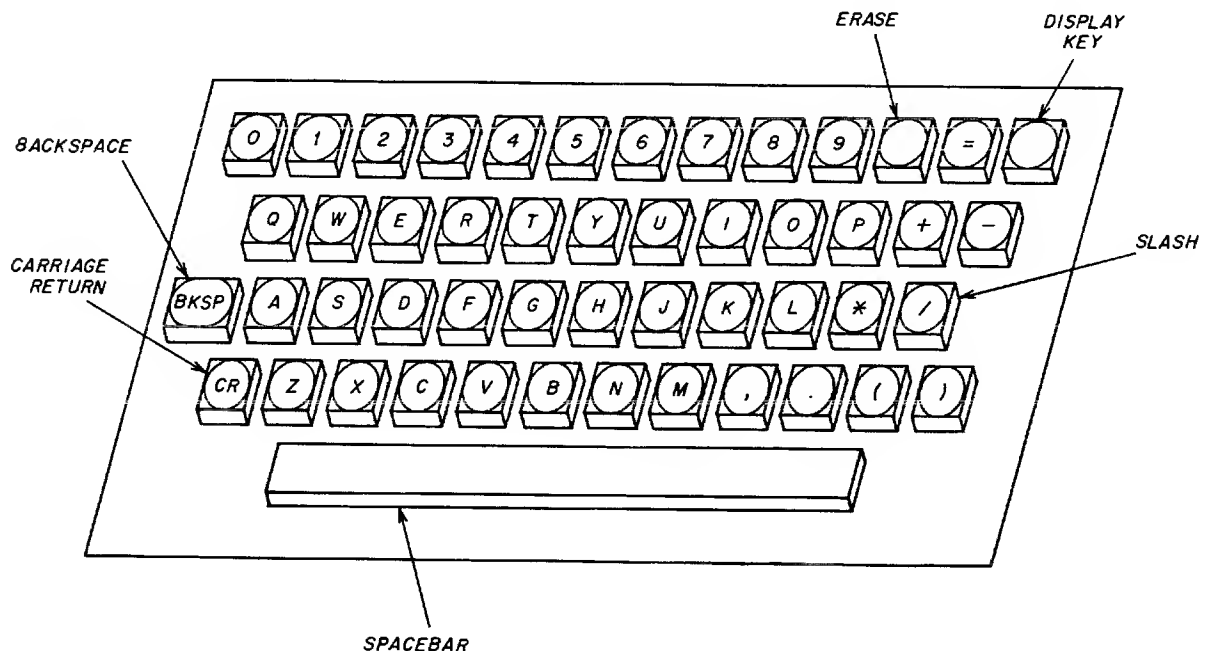

Figure 3-1. Console Keyboard
The operator communicates with the KRONOS system through the console keyboard (Figure 3-1). As characters are entered from the console, the accumulated entry is displayed on the lower left portion of the left display screen. The operator can then check entries before initiating execution by pressing the carriage return (CR) key.